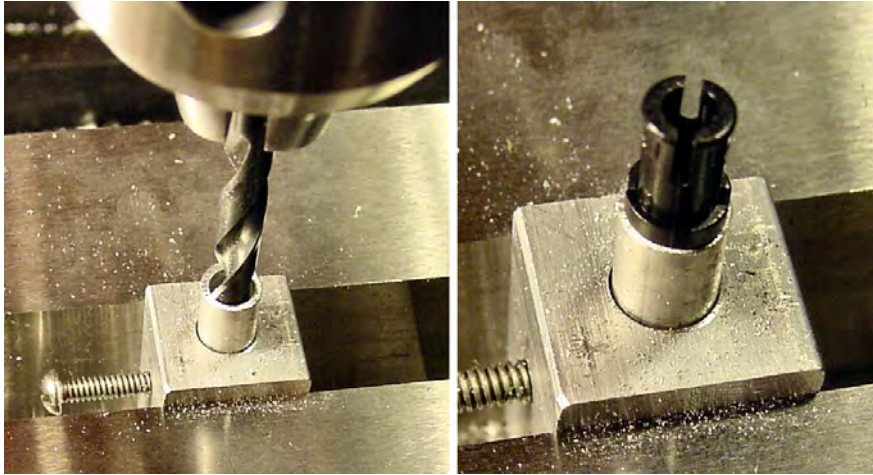

Figure 3-22. Drilling a wider hole in the top of the coupler rod (left). Inserting a LEGO Technic pin friction connector to check depth (right).
14. Drill a little (see Figure 3-22), pull up and measure the hole, and drill again. For the LEGO axle, a $\frac{5}{16}$ -inch deep hole is fine. Deeper holes are appropriate for longer axles.